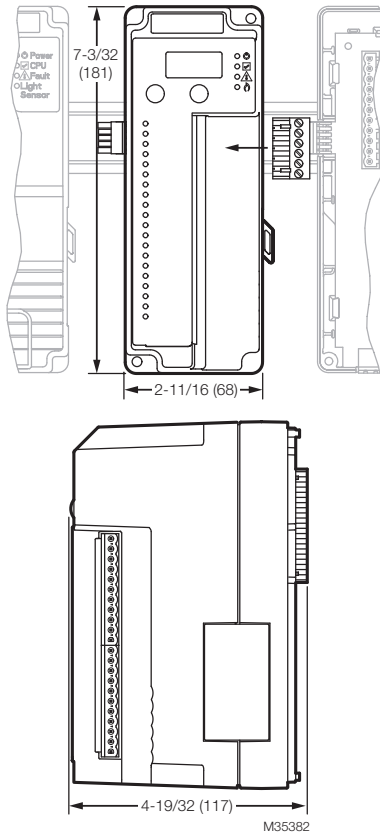

Fig. 1. Mounting dimensions of IR Ampli-Check Flame Amplifier in. (mm).
**Dimensions:** See Fig. 1.
DIN Rail (See Fig. 1)